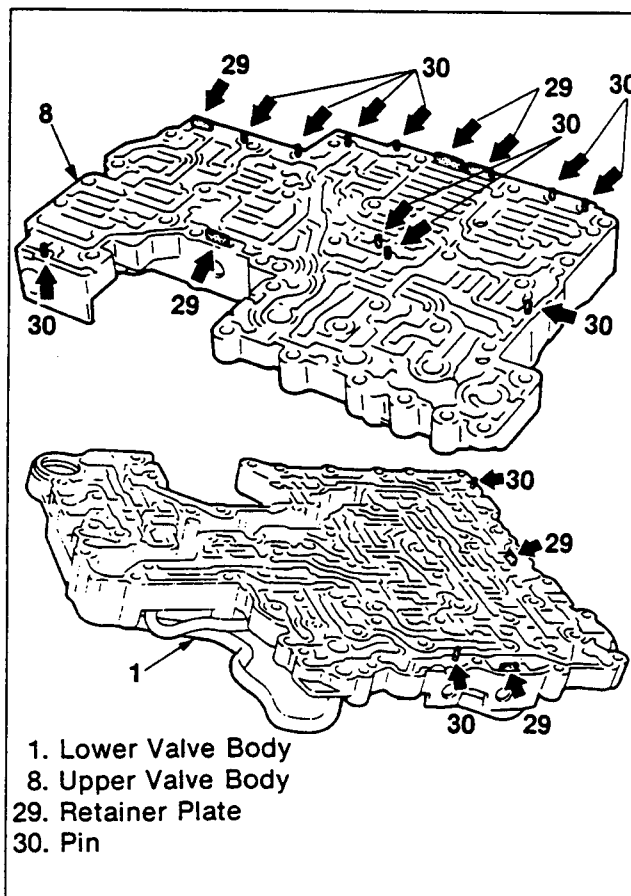

Figure 104. Retainer Plate and Pin Location
Control Valve Combined with Pin (Figures 104, 105, 106, 107 and 108)
1. Control valves are secured by 12 pins and 6 retainer plates (figure 104).